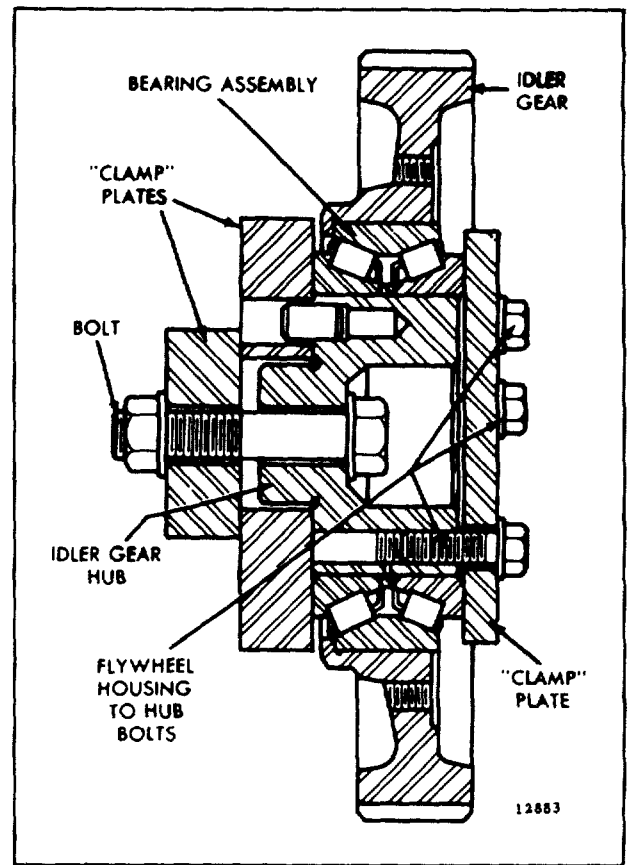
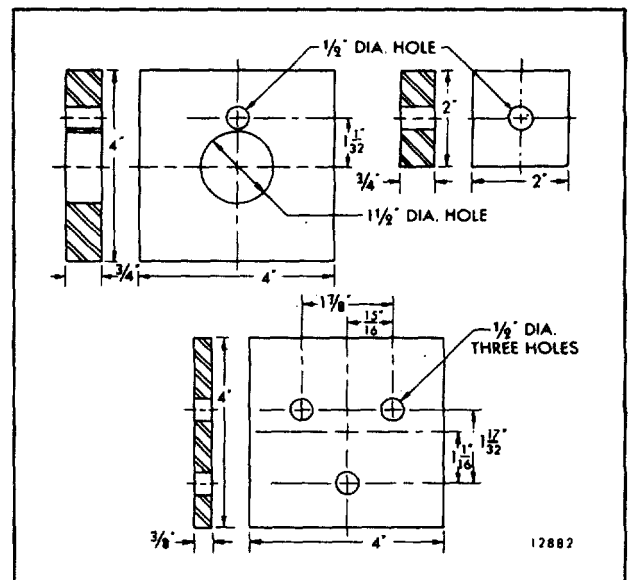

Fig. 6. Fixture for Testing Bearing Pre-Load
Fig. 7. Plates for Bearing Test Fixture
3. Place steel plate (lower plate shown in Fig. 7) against hub and bearing. Insert three 3/8 "-16 bolts through the plate and thread them into the hub. Tighten the bolts to 24-40 lb-ft (34-54 Nm) torque.
If the crankshaft and camshaft gears are mounted on the engine, a suitable fixture, which may be held in a vise, can be made as shown in Fig. 6. Three plates (shown in Fig. 7) a 1/2"-13 x 2 3/4" bolt and a plain washer are used with a 1/2 "-13 nut and plain washer for mounting. One of the plates is used to take the place of the flywheel housing, and the other two plates, the cylinder block, *Engine-mounted* conditions are simulated by tightening the nut to 80-90 lb-ft (108-122 Nm) torque and tightening the three plate-to-hub attaching bolts to 25-40 lb-ft (34-54 Nm) torque.
1. Attach the plates (two upper plate shown in Fig 7) to the idler gear with 1/2"-13 bolt, washers and nuts as shown in Fig. 6. Tighten the bolt to 80-90 lb-ft (108122 Nm) torque.